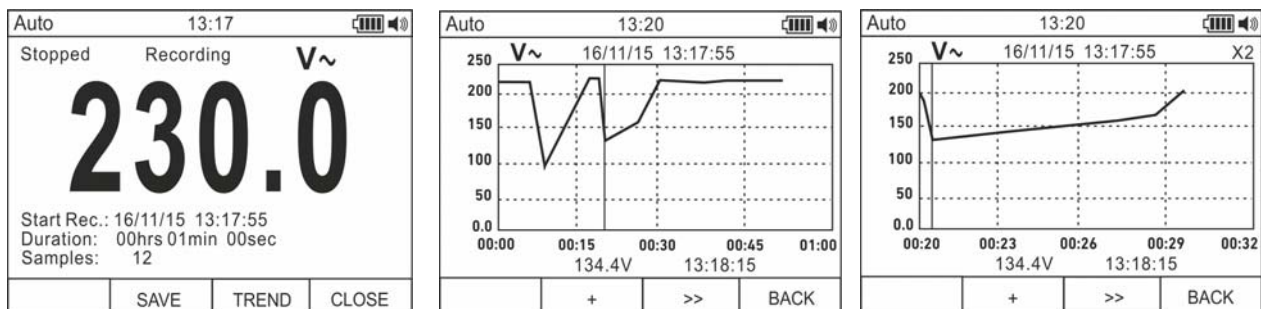

Fig. 11: Starting data recording
9. The instrument shows the remaining time and the number of samples taken in real time, and the message “Stopped” at the end of recording (see Fig. 11 – left side). Press the **F4 (STOP)** key to stop recording at any time.
11. Press the **F3 (TREND)** key to display the trend of recording (see Fig. 11 – central part).
12. Press the **F4 (>>)** key to move the cursor on the graph and the **F2 (+)** key to activate the Zoom function of the graph, increasing resolution (symbol “Xy” where y=max zoom dimension appears at the top of the display on the right side) (see Fig. 11 – right side). You can zoom X1 for **at least 15 measuring points**, X2 for **at least 30 measuring points**, X3 for **at least 60 measuring points** and so on for maximum **6 zooming operations**.